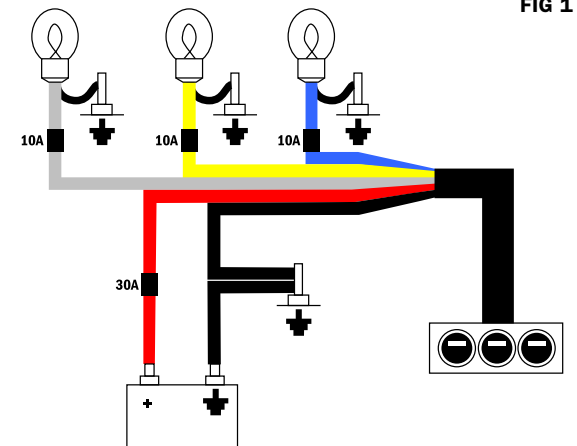

FIG 1
STEP 10 Connect the red wire to the stock power connection. Connect the black wire to the bike chassis or designated ground point. These wires provide power and ground to the lights on the switch housing. See FIG.1 for a wiring diagram.
STEP 12 Connect your accessory lighting power wires to the white, blue, and yellow wires; you may lengthen or shorten the wires as needed. Connect your accessory lighting ground wires to the negative terminal of the battery or the designated chassis ground. See FIG. 1 for a wiring diagram.